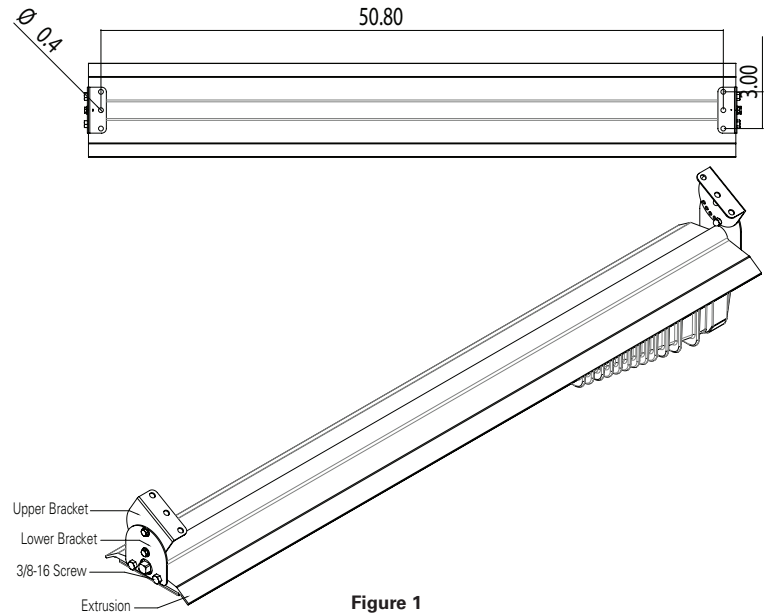

Figure 1
2. Measure and mark four (4) holes to wall or ceiling for bolts at center-to-center measurement (see Figure 1). Mount upper bracket on the ceiling with sufficient strength to support the light fixture.
3. Install the stainless steel lower brackets to the luminaire with the hardware provided. Install the lower bracket using two (2) hex head 3/8-16 x 1/2" screws. Torque the 3/8-16 screws to 236 in.-lbs.
4. Use two (2) 1/4-20 screw and cap nut to assemble lower and upper brackets together in straight or angular orientation. Torque 1/4-20 screw and cap nut to 75 in.-lbs. Fixture is now ready for mounting.